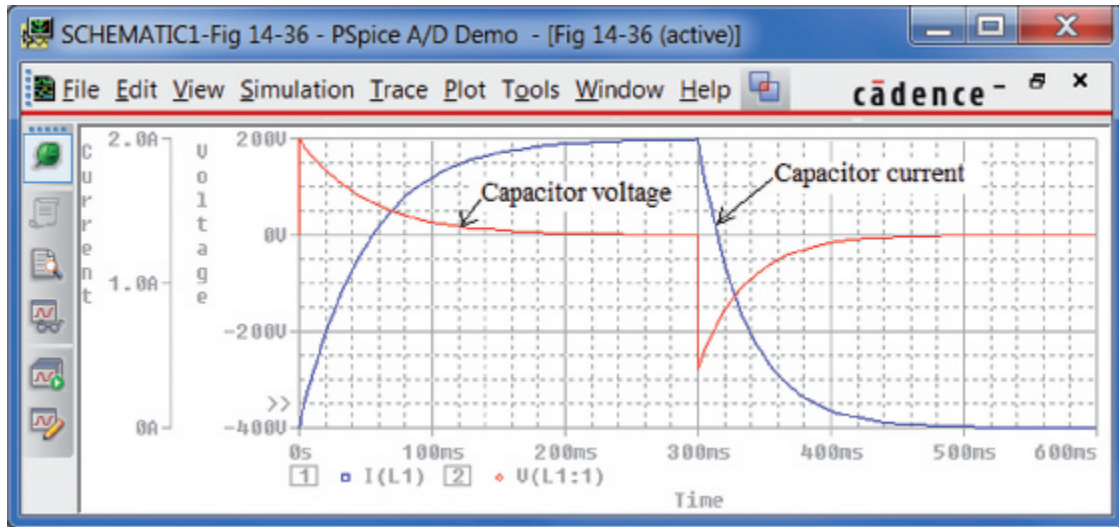

FIGURE A-5 Displaying and labelling multiple traces.
To add text to a plot as in Figure A-5, select Plot, Label, and then Text. Type your text, then position it as desired. To add a Y-axis title, select Plot, Axis Setting, click the *Y-Axis* tab, select the *Y-Axis Number*, then in the *Axis Title* data entry box, type the desired title (e.g., **Voltage** as in Figure A-5), then click *OK*.
Multiple traces may be displayed on the same vertical axis or you may use independent axes as in Figure A-5. Often the first trace (assume voltage here)
is created using a marker probe. This automatically creates the first Y-axis and scales it. To add a second axis and trace as in Figure A-5, do the following:
- Click Trace, Add Trace, then double-click the variable whose trace you want to add—see Figure A-5.